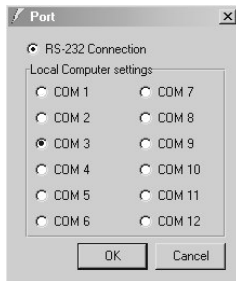

Figure 13: The Port Window – Selecting a Virtual Serial Port
4. In the control application, choose the COM-port connection according to your virtual serial port connections (see Figure 13).